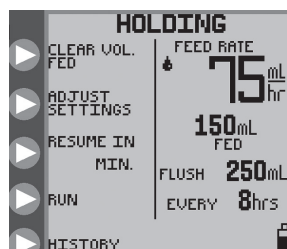

Figure 18A. ***HOLDING*** mode options, continuous feeding mode.
- **HOLDING** screens (Figure 18A)
There are five options available during ***HOLDING***. See Figures 18A and 18B.